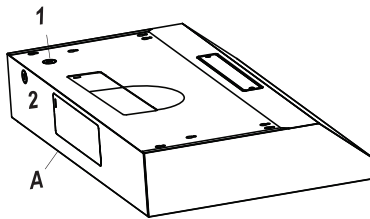
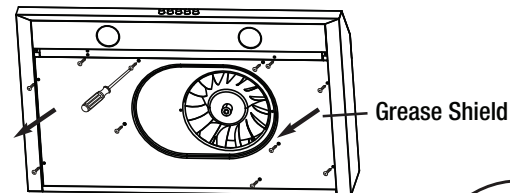

Fig. 10
Fig. 13
- Remove the grease shield panel of the range hood (see Fig. 13) to access the electrical wire leads.
- Use the power supply cable to connect the range hood (A) directly to the junction box or circuit breaker box. Use a flexible, armoured, or nonmetallic sheathed copper cable only. Never use an extension cord or adapter plug.
- Connect a UL-listed or CSA-approved conduit connector to each end of the power supply cable (at the range hood and at the junction box). Connect the 2 colored wires from the range hood (A) to the corresponding wires from the electrical source: black to black (live), white to white (neutral), and the house grounding wire to the green ground screw. Use either the top hole (1) or the back hole (2) of the range hood depending on your installation type as shown in Fig. 10.
- Choose the appropriate electrical knock-out hole to remove for your installation type. Use the top hole (1) if your electrical supply is in the cabinet and the back hole (2) if your electrical supply is on the wall below the cabinet (refer to Fig. 10).
- The damper and the adapter are located inside the range hood. To access these parts, remove the grease shield if you have not previously done so (see Fig. 13).
- Choose to install the damper (D) either in the top position (3A & B) for top venting or in the back position (5) for back venting. Adapter (E) is used for top venting only and installs in position 3A and 4.
- Attach damper (D) or adapter (E) over chosen knockout opening. Make sure the damper pivot is oriented on top such that the damper stays closed when not in use.
- Secure the damper (D) or adapter (E) to the range hood (A) with the short tapping screws (BB).
- Seal the damper (D) or adapter (E) to the range hood (A) on all four sides with duct tape.